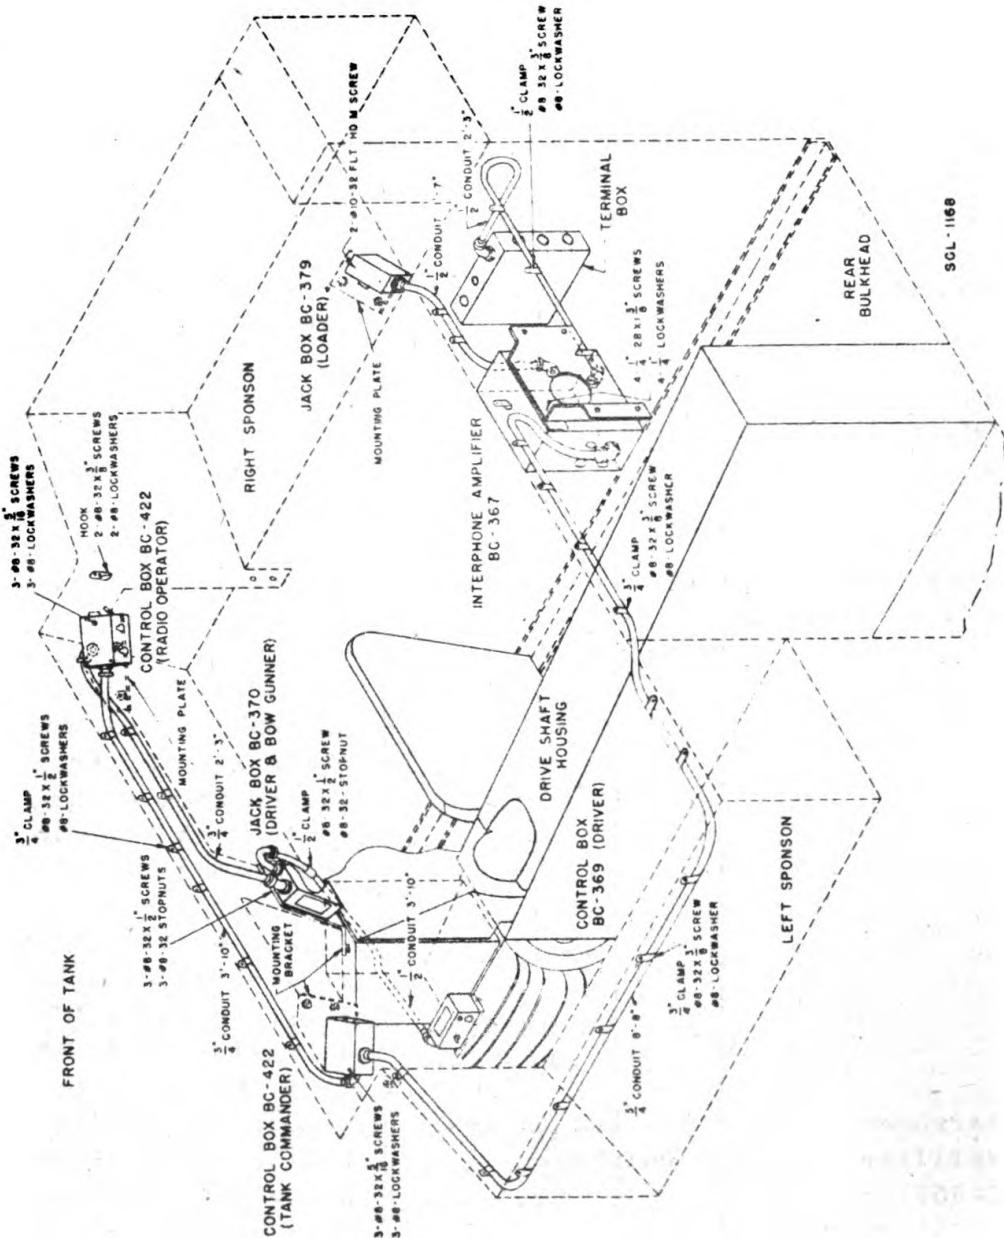

FIGURE 7—Installation of interphone equipment RC-61 in light tank M3.
6. Installation.—*a. Drilling data.*—Light tank M3 comes with all the necessary mounting holes. If necessary, drill a 3/16-inch hole in jack box BC-370 mounting bracket for the conduit clamp shown in figure 7.
b. Clamps, screws, etc.—All clamps, screws, nuts, and lockwashers needed to install the various components in this vehicle are shown in figure 7. Care shall be taken to use the exact screw specified, and all screws, clamps, etc., left over shall be placed in a cloth bag and secured to a bracket. It is important to have the holes in the vehicle and the brackets line up with the drilling in the interphone equipment. Be sure to use lockwashers where stop nuts are not called for. *Do not change hole line-up on the interphone parts unless absolutely necessary.*
c. Initial procedure.—*(1) Interphone equipment RC-61.*—This comes completely wired for installation. The requisite mounting plates and brackets are supplied as part of light tank M3.
(2) Interphone amplifier BC-367.—The amplifier assembly is mounted on the underside of the cover. Remove the cover assembly from the box by removing the eight screws which fasten the cover, and pull it straight out. Install two tubes VT-107 on the amplifier assembly and one spare tube VT-107 in the amplifier box.
(3) Jack box BC-370 (driver and bow gunner).—Remove the four cover screws and the cover.
(4) Mounting bracket for jack box BC-370.—Unscrew the two 3/4-inch nuts and remove the bracket from the front center support. See figure 7.
(5) Control boxes BC-422.—Remove the four cover screws and the cover.
(6) Control box BC-369 (driver).—Remove the two cover screws and the cover. Unsolder the six conduit wires from the terminal block. Unscrew coupling nut and separate conduit from 45-degree elbow. Do not remove 45-degree elbow from the box.
(7) Mounting plate for jack box BC-379.—Remove the two 3/8-inch nuts and plate.